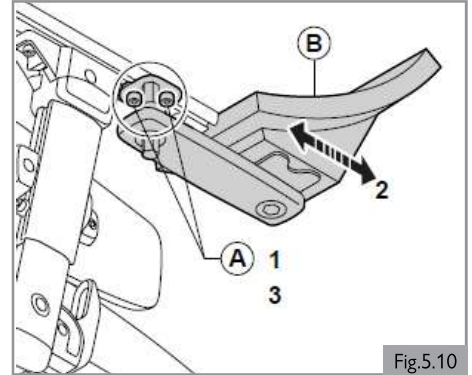

Fig.5.10
**5.7 Pre-set fixed / swing away controller****Bracket depth of the controller (Fig. 5.10)**